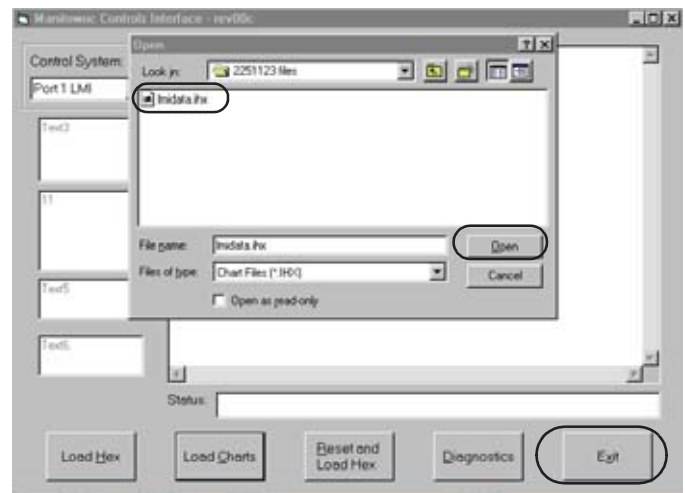

FIGURE 13
13. To reduce chart loading time, scroll up or down one screen from display working screen to menu screen. Locate on **Open** screen and click on **Imidata.ihx** icon to select file (see Figure 13).
15. When screen changes to indicate in **Status** bar that programming is finished (example: Load Data in Address 49480 Close File), the capacity charts are fully loaded into crane's rated capacity indicator/limiter (load moment indicator) system. Click **Exit** button on control interface screen (see Figure 13) and disconnect cable. Scroll up or down on display and working screen will return.